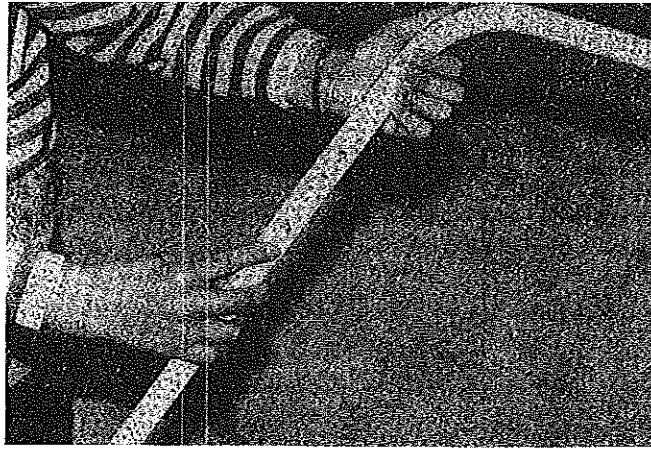

FIGURE 43
49. Adjust bed bow support as necessary to make the tent enclosure over the bed taut. This is done by pressing the release button on the pole and extending the rod to the next hole location. See Figure 43.